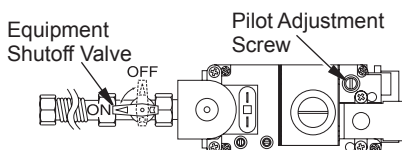

Figure 34 - Turning Equipment Shutoff Valve to the OFF Position
5. Turn equipment shutoff valve clockwise to the OFF position (see Figure 34, page 23). Do not force.
- Turn the adjustment screw marked PILOT clockwise to decrease or counterclockwise to increase the flame to proper size (see Figure 34). Do not remove the adjustment screw.